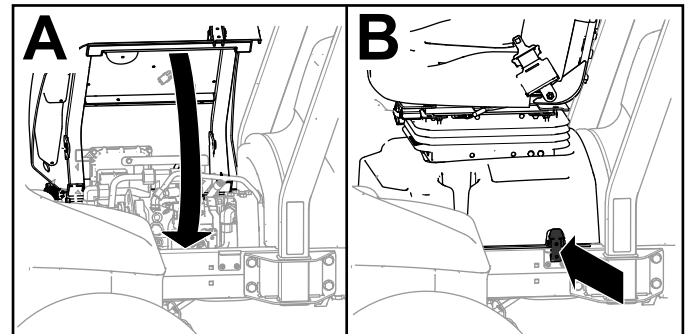

Figure 104
4. Rotate the seat and seat base closed and latch the base (Figure 104).